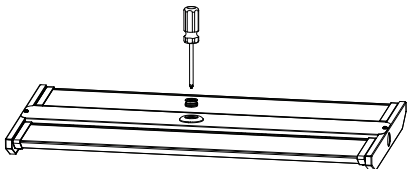

Figure 12
Step1. Use a screwdriver to remove the 1/2 plug from the sensor; (Figure 12)